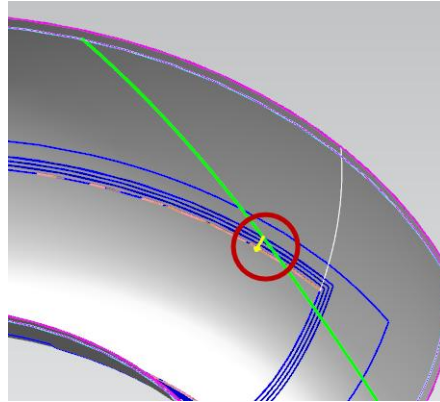

Figure 13–32
- Offset Direction: set pointing left to the net boundary from the first splice curve selected as shown in Figure 13–32.